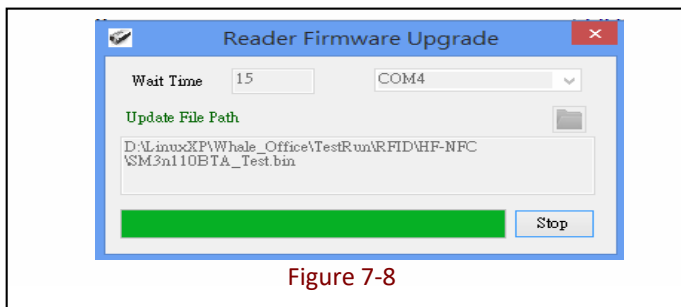

Figure 7-8
**CAUTION !** While the **MR10A7** is **updating its firmware** (Figure 7-8), please avoid unnecessary errors and do not unplug the cable. Incomplete firmware update may cause damage to unit.